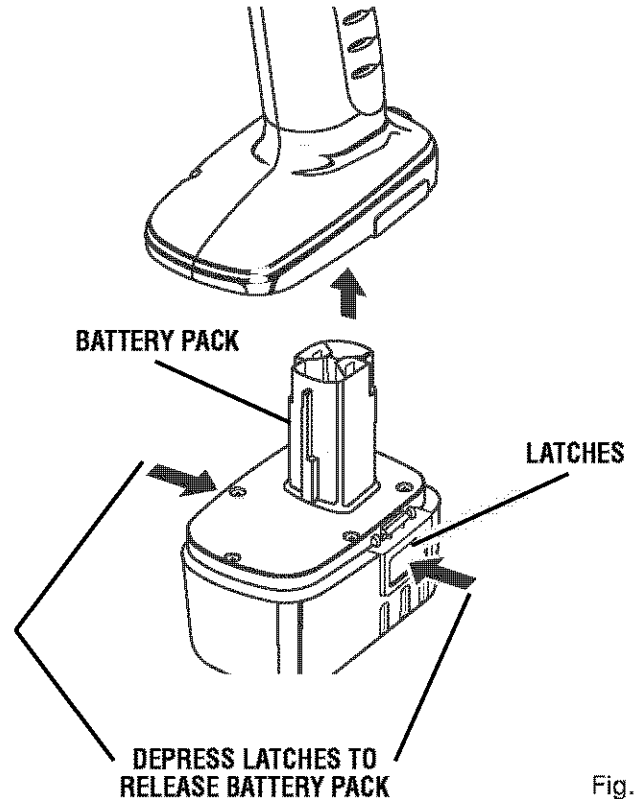

Fig. 3
- Place battery pack in this drill. Align raised rib on battery pack with groove inside drill. See Figure 3.
- Locate latches on side of battery pack and depress to release battery pack from your drill. See Figure 3.